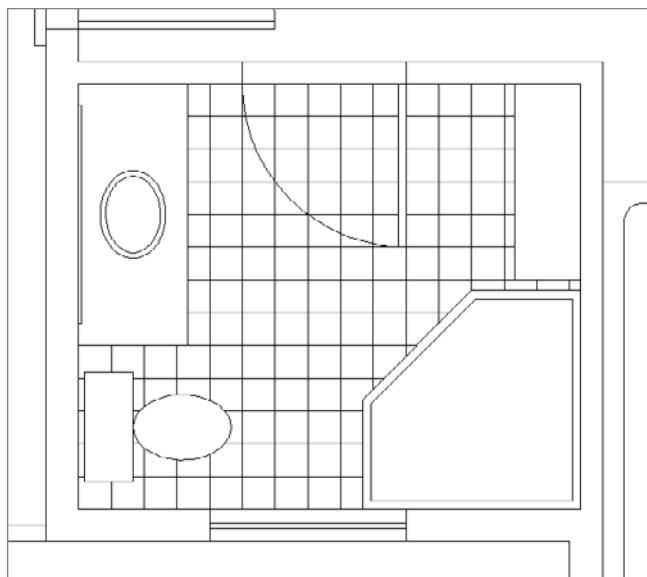

FIGURE 11.19 The tiled hatch pattern in place
7. Back in the drawing, be sure no osnaps are running, and use the automatic preview to pick two points to match the tiled hatch pattern shown in Figure 11.19.
8. With the bathroom hatches in place, press ↲ to end the HATCH command. The tiled hatch pattern should fill the bathroom floor and stop at the header while not encroaching into the door or fixtures (see Figure 11.19).